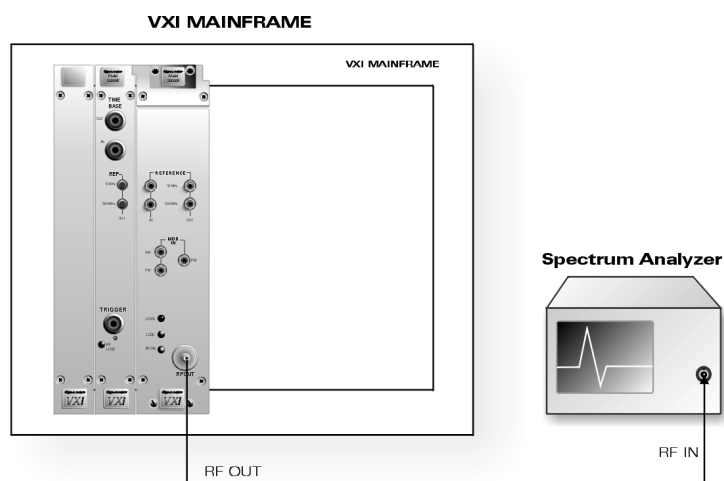

Figure 4-3: Spurious Signals Tests
1. Connect the equipment as shown in Figure 4-3. Enter the first Test Data Sheet frequency which is within the range of the particular instrument. The RF amplitude should be at +0 dBm for harmonic tests and 0 dBm for spurious.